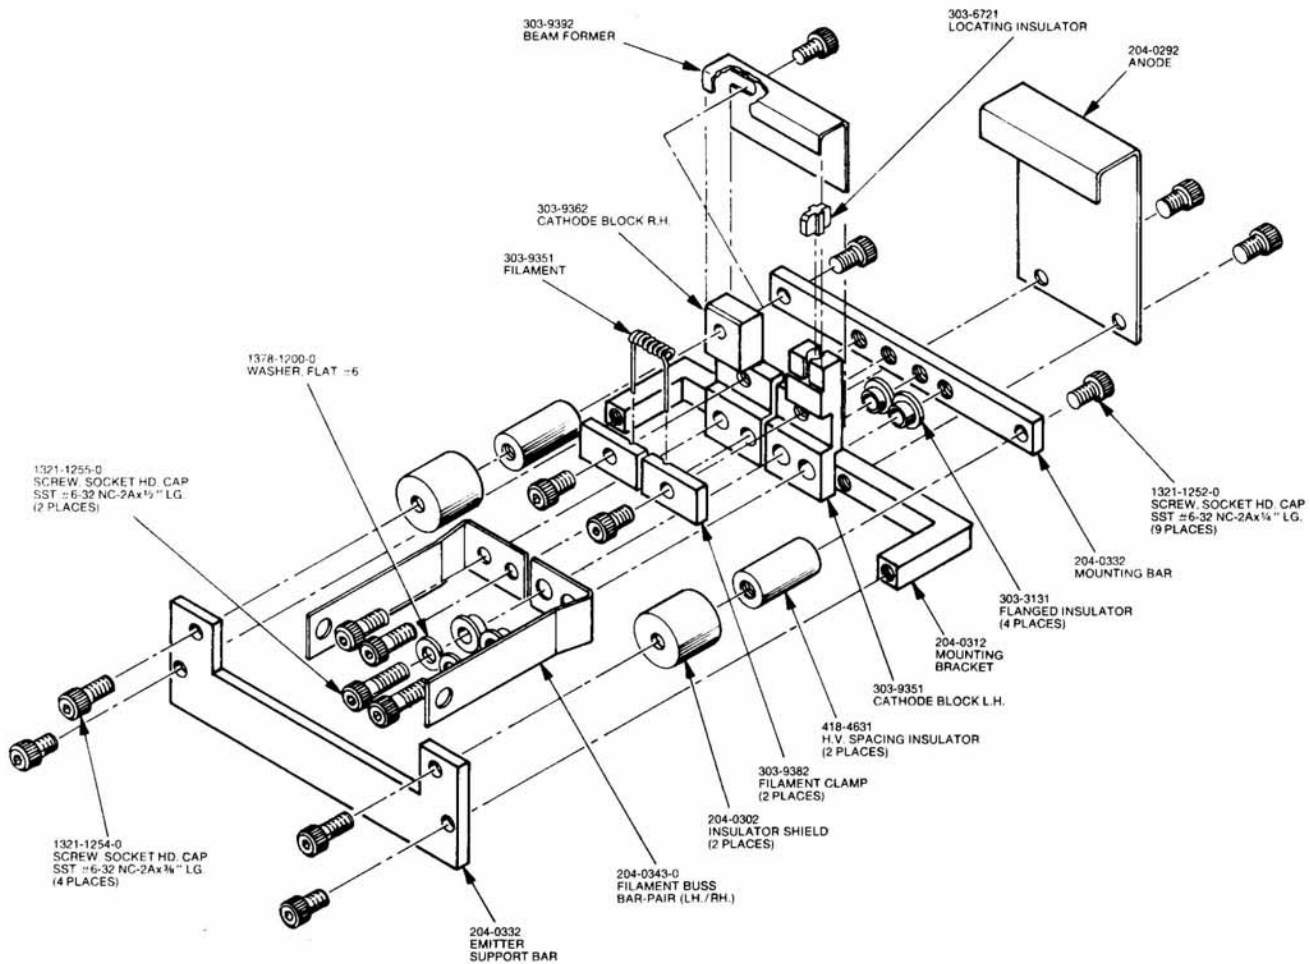

FIGURE 6
4. Remove the two filament clamps by removing the two filament clamp screws. Refer to Figure 6.